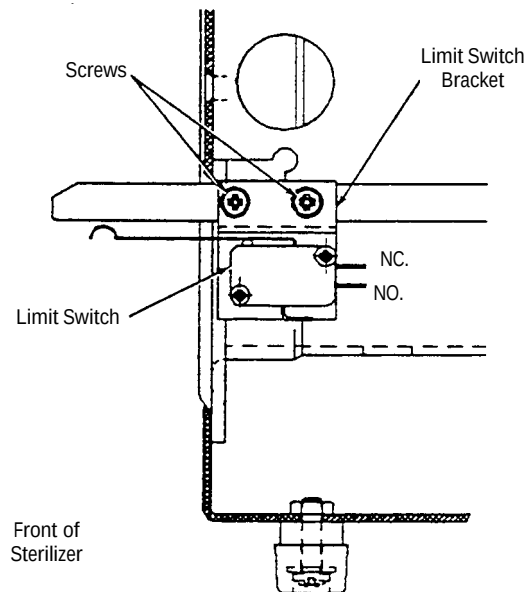

**Figure 7-9**
3. Loosen screws holding the limit switch bracket and adjust limit switch in a vertical direction to the activated position (clicks while moving switch up) and tighten screws (Fig. 7-9).